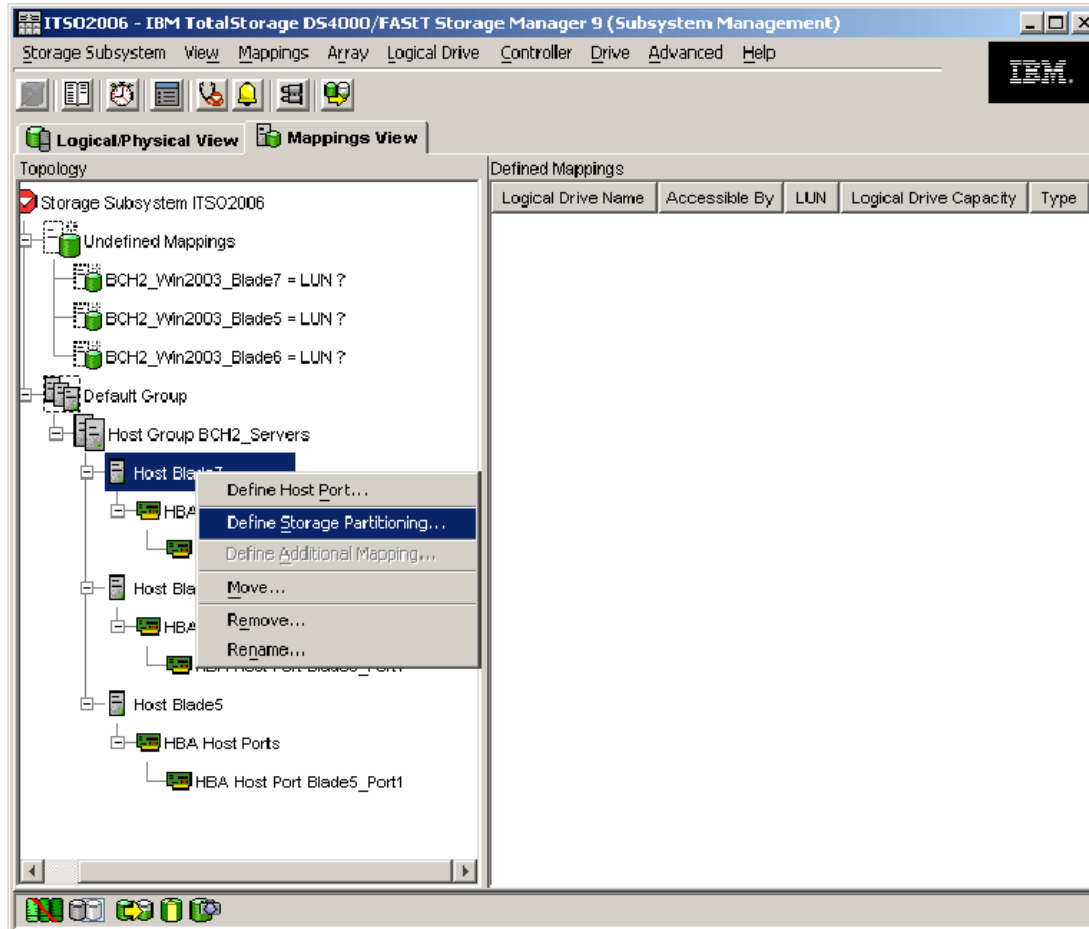

Figure 5-80 Defining storage partitions
1. Right-click one of the server blade hosts to define the Storage Partitioning, as shown in Figure 5-80.